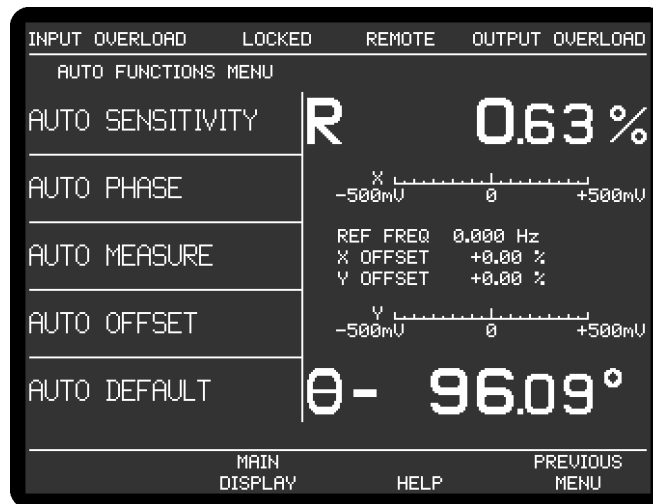

Figure 2-4, Auto Functions Menu
- 6) Press one of the keys adjacent to the Auto functions menu item to enter the Auto Functions menu, shown below in figure 2-4.